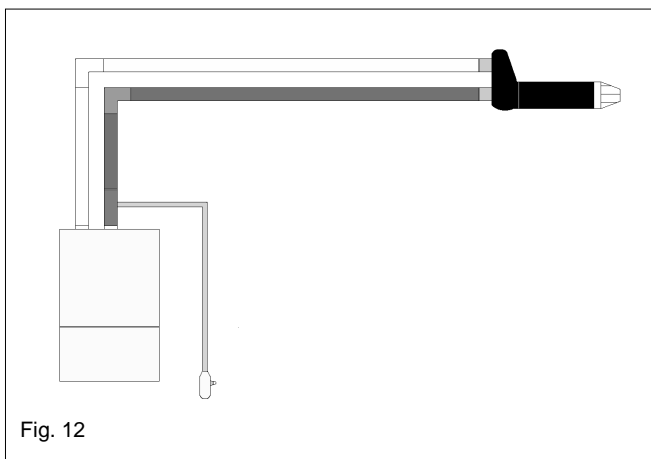

Fig. 12
4.5.3.3 HORIZONTAL TERMINATION (see fig. 12)